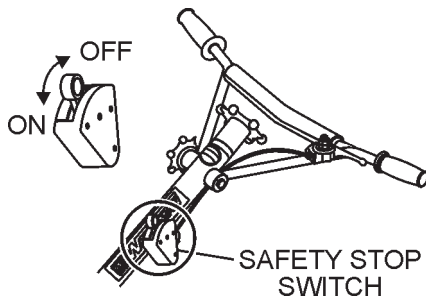

Figure 23. Centrifugal Safety Stop Switch
- Place the **centrifugal safety stop switch** (Figure 23) in the "ON" position.
- With the engine at idle, move the safety stop switch lever to "OFF" (Figure 23). The engine should shut off.